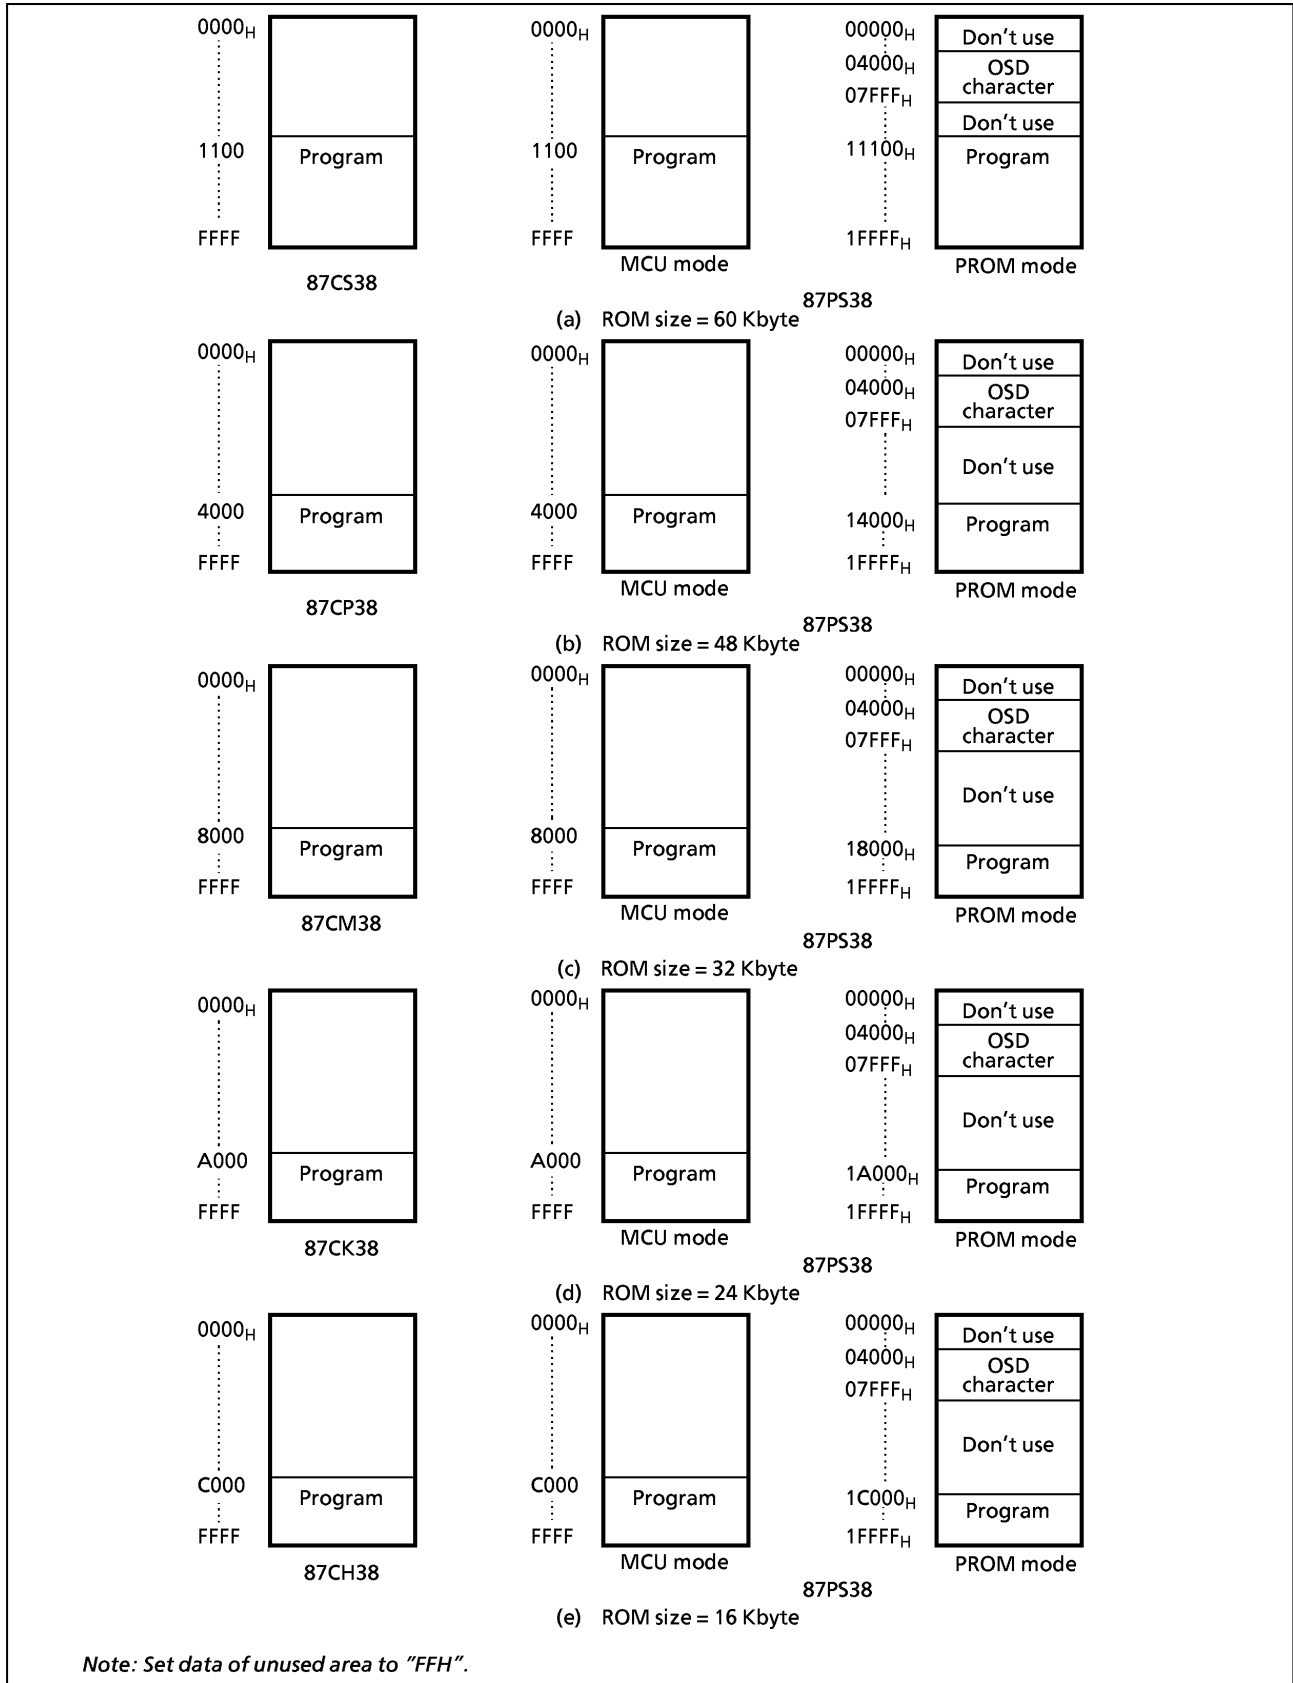

Figure 1-1. Program memory area
- (1) Adapters
- (2) Adapter setting
- (3) PROM programmer specifying
- In the TMP87PS38, EPROM is within the addresses 04000_H to 07FFF_H and 11100_H to 1FFFF_H. Data is required to be transferred (copied) to the addresses where it is possible to write. The program area in MCU mode and PROM mode is referred to "Program memory area" in Figure 1-1.
- (4) Writing